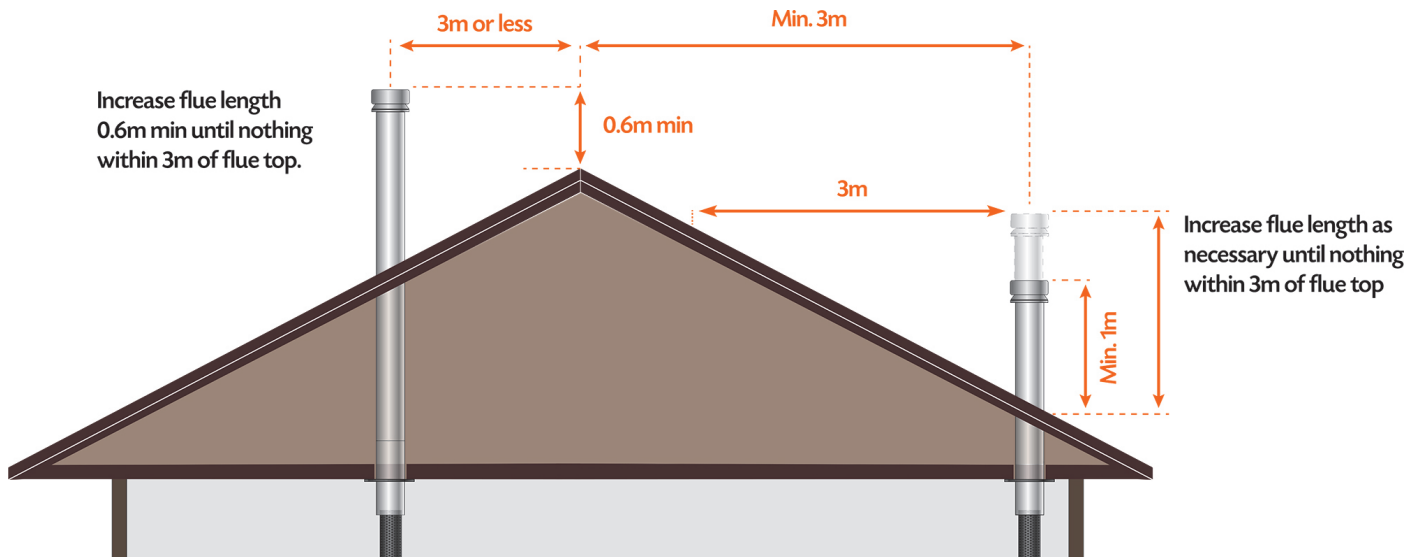

FIGURE 1
7. Add the remaining casings to the required height. Australian/New Zealand Standards state that "the flue pipe shall extend not less than 4.6m above the top of the floor protector". If the flue pipe is within 3 metres of the ridge, the flue pipe must protrude at least 600mm above the ridge of the roof. If the distance from the ridge is more than 3 metres, the flue pipe must protrude at least 1000mm above roof penetration. Additional lengths of casing and flue may be required to achieve this. The flue pipe must be more than 3 metres from any nearby structure. Other clearances may be applicable, it is up to the installer to ensure compliance with all regulations. **See Figure 1 and 2 on P7.**